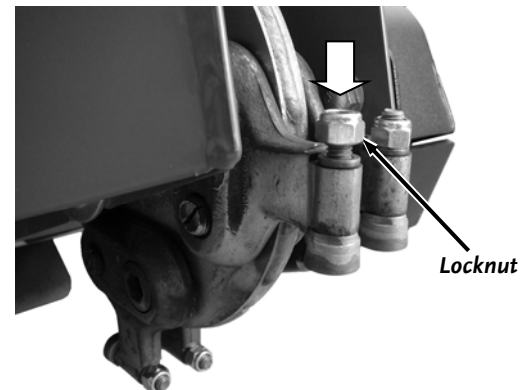

Figure 48
3. Lightly tap on the top of the Locknut with a Dead-blow Hammer so the Tooth will drop down away from the Tooth Mount (**Figure 48**).